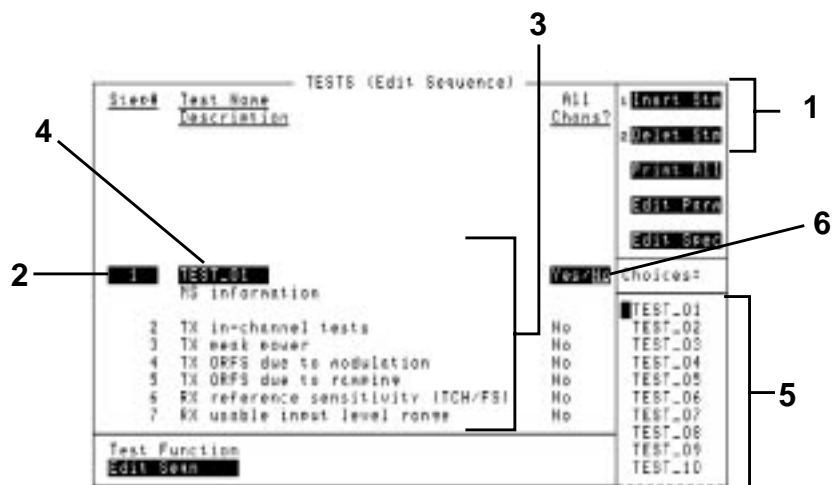

Figure 8-14
- 1 Select the Edit Seqn field. A test-sequence screen similar to that shown in Figure 8-14 on page 8-33 appears.
- 2 Select the Insrt Stp field or Delet Stp field as needed to insert or delete tests on the screen. Refer to item (1) in Figure 8-14 on page 8-33.
- 4 Select the **Test Name** field and turn the knob to select the desired test. Refer to item (4) in Figure 8-14 on page 8-33. (As you turn the knob, the test name and description changes along with the test number shown in the **Choices** menu.)